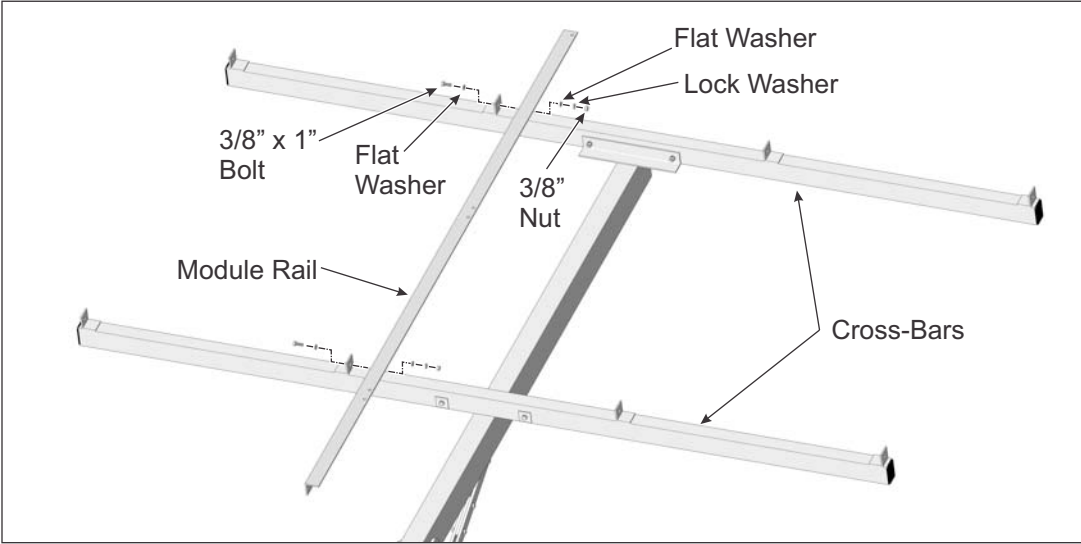

Figure 4-3: Installing northern inboard Module Rail to Cross-Bars
- B. Next, install the northern Module Rail. Align the Module Rail mounting holes with the holes of the Cross-Bar mounting tabs and secure with 3/8" x 1" bolts and hardware. Finger-tighten for now. (See Figure 4-3)